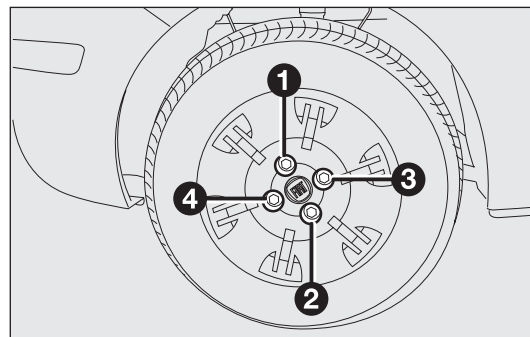

fig. 130
- ☐ fully tighten the bolts, passing alternatively from a bolt to the opposite one, following the order shown in fig. 130.